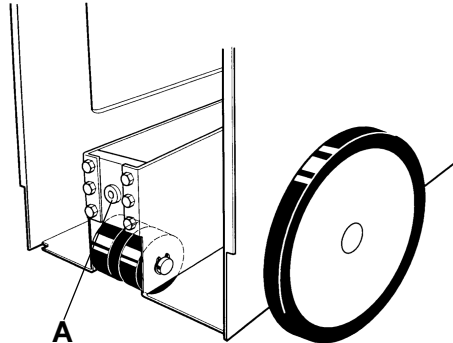

Fig. 45 Adjustment screw
13. Tighten the adjustment screw (pos. **A** / Fig. 45) until the arm is balanced. In order to check the balancing, the belts has to be loosened. If the spring pack is not properly in position, a cracking noise can suddenly be heard as the spring pack jumps into position when tightening the screw **A**.